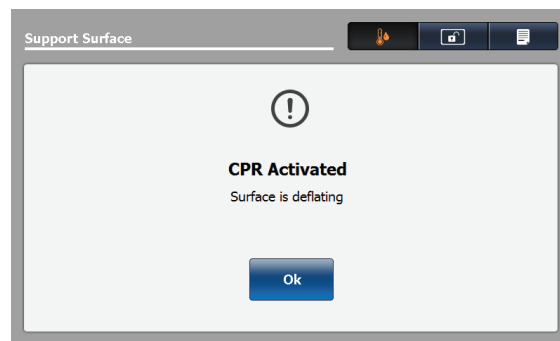

Figure 70: CPR Activated — Surface is deflating
- After you activate the CPR straps or CPR release pedal the screen displays (Figure 70 on page 75).